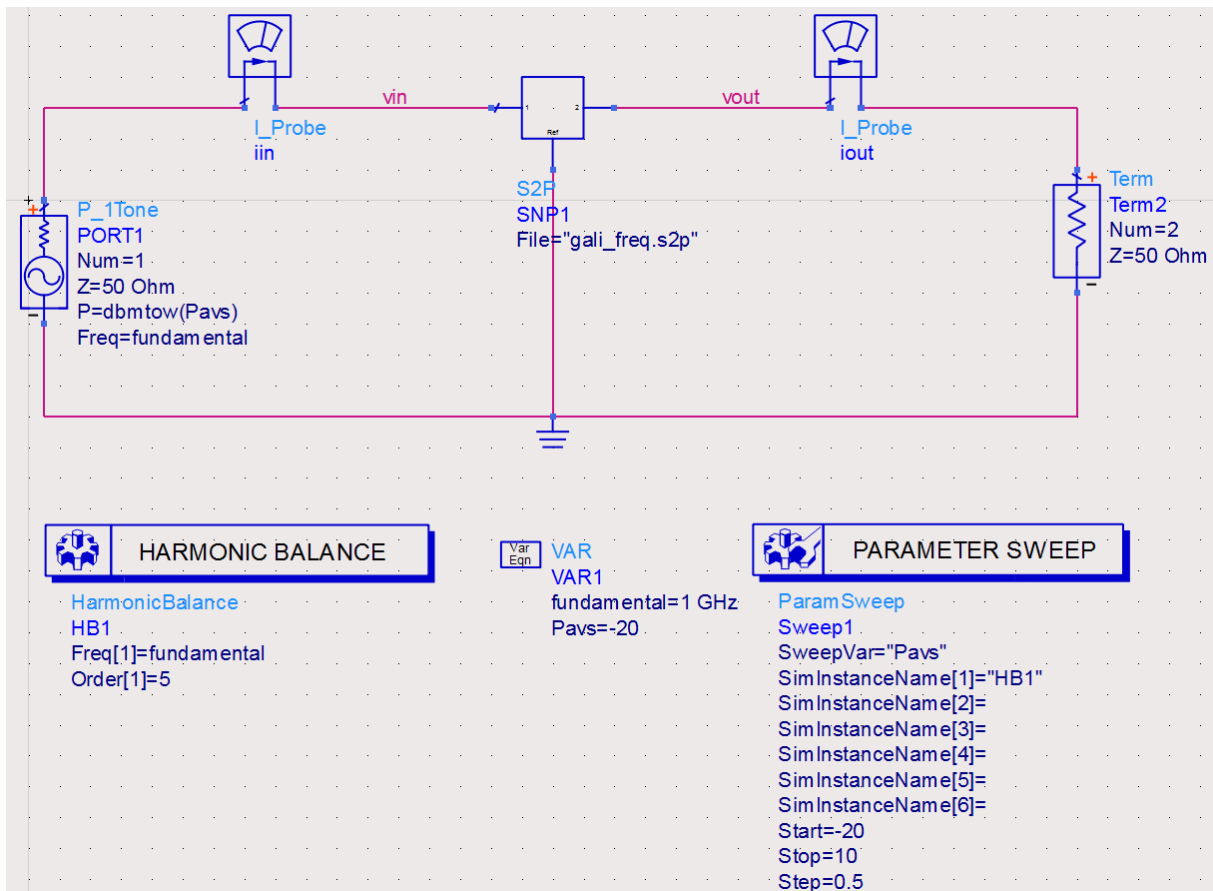

Figure 2: Harmonic Balance Simulation Schematic
7. Your schematic should look like the following as shown in Figure 2